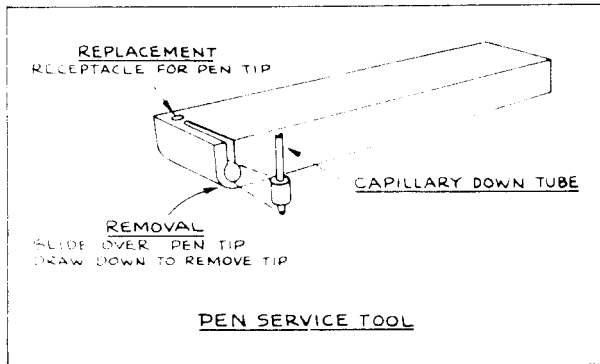

Figure 3-15 Pen tip replacement
(3) Chart cassette
- (viii) If a capillary ink system is fitted, and the pen is showing signs of wear (wide line), replace the pen tip as shown in Figure 3-15.